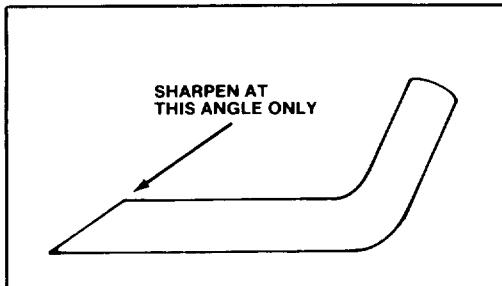

Figure 15
5. **SHARPENING BLADE** — Using a file, sharpen top side of blade and maintain original cutting angle (Fig. 15). The blade will remain balanced if same amount of material is removed from both cutting edges.